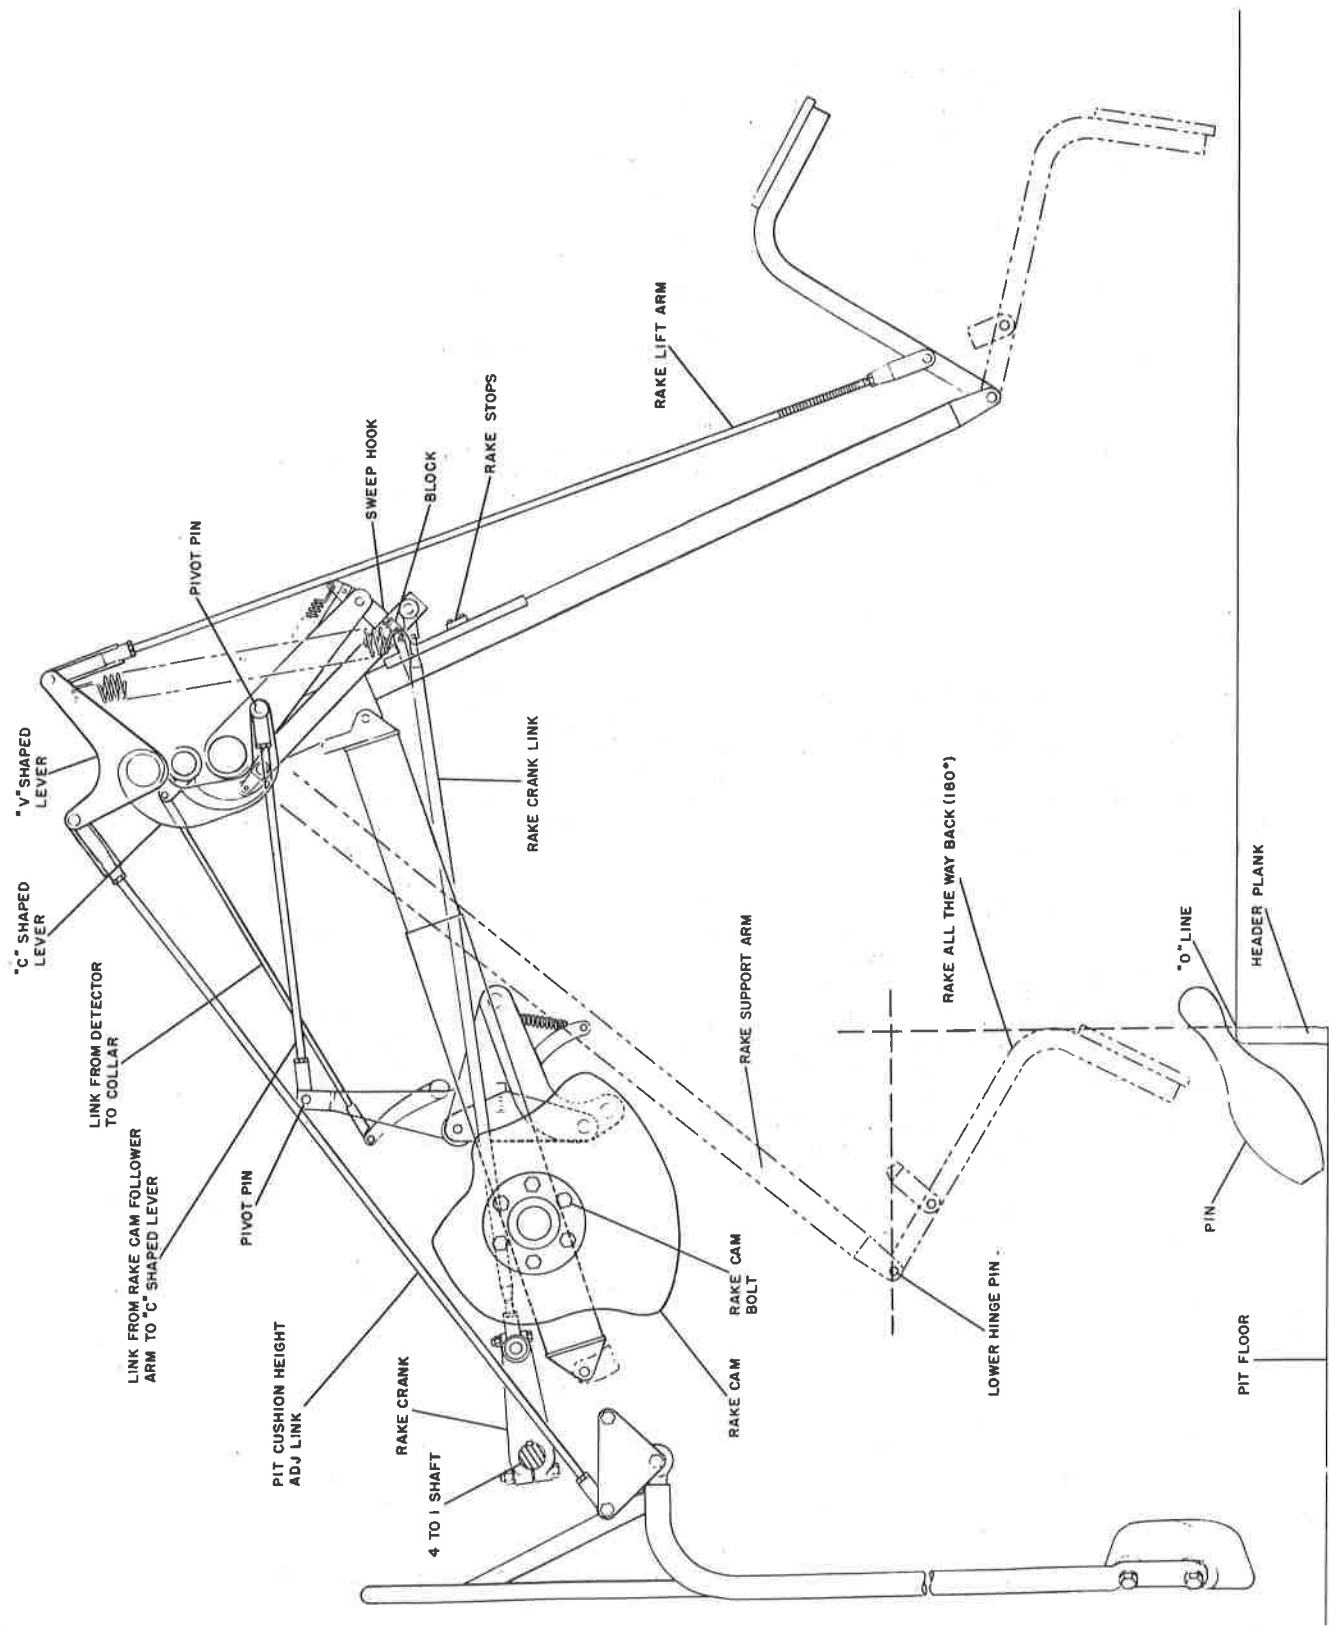

Figure 60. Rake Adjustments
2. RAKE SWEEP HOOK ADJUSTMENT. (FIGURES 60 and 61)
3. RAKE BOARD HEIGHT ADJUSTMENT. (FIGURE 60)